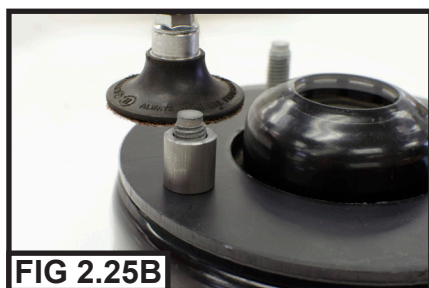

FIG 2.25B
- 12-C. Trim the stud flush with the top of the **Height Trim Guage Tube**. (*Remove the Height Trim Guage Tube before continuing.*) (FIG 2.25B)